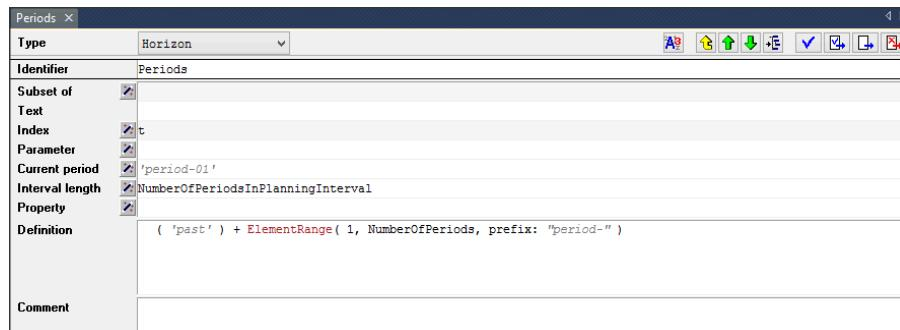

Figure 6.11: The completed attributes of the horizon ‘Periods’
Consider Figure 6.11, and complete the **Definition** attribute. Again, you may want to use the name completion facility to select **NumberOfPeriods** as the second argument in the function **ElementRange**.
- ▶ type the definition as in Figure 6.11,